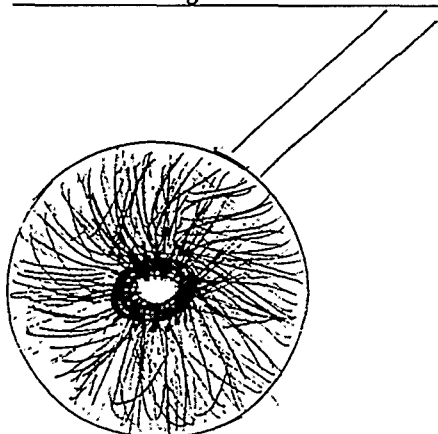

Figure 3
4) Cut approximately a two-foot length of yarn and thread your needle, tying a small knot in one end. This will be used to sew the crown and the base. Sew a single row of stitches, side by side, around the circumference of the crown, starting inside and working outward (see Figure 3). Leave the knot